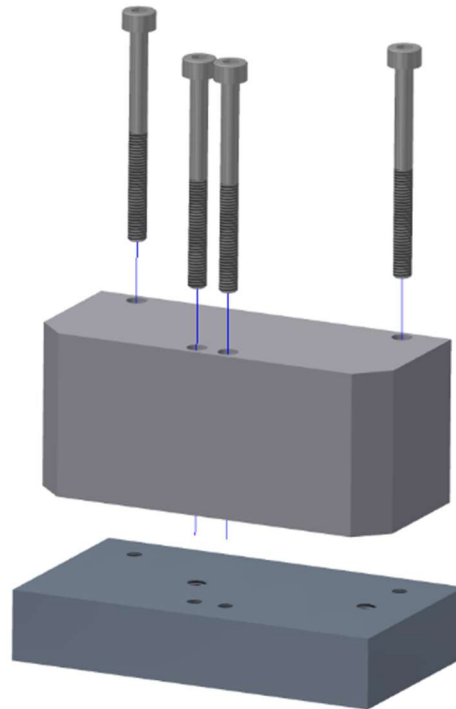

Figure 3-28. DAS structural replacement and DAS mount
- 3.3.8 Install the DAS structural replacement (474-1033) onto the DAS mount (474-1051) using four M3 X 0.5 X 35 SHCS (Figure 3-28).